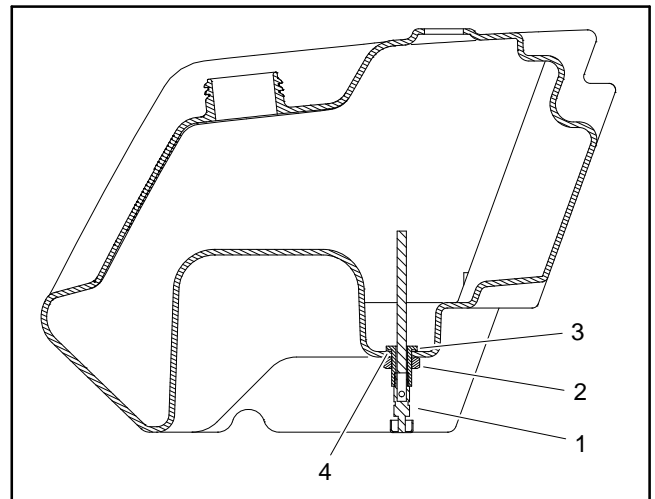

Figure 7
- B. Disconnect fuel supply hose (item 17) at the fuel filter and drain any fuel trapped in the fuel filter and fuel hose into a suitable container.
4. Remove vent hose (item 10) from fuel vent valve (item 6).
5. Remove four (4) cap screws (item 14), flat washers (item 13) and flange bushings (item 12) that secure the fuel tank to the tank mount plate (item 2).
6. Move fuel tank towards the rear of the machine to gain access to fuel return hose (item 15). Remove return hose from elbow fitting on front of tank.
9. If necessary, remove shut-off valve and fitting assembly from fuel tank (Fig. 7). The nut and fitting have left hand threads.
1. Install fitting assembly and shut-off valve into fuel tank if they were removed from tank (Fig. 7). The nut and fitting have left hand threads.
3. Move fuel tank towards the rear of the machine and install return hose (item 15) to elbow fitting on front of tank. Secure hose with hose clamp.
- A. Apply antiseize lubricant to the threads of the four (4) cap screws (item 14).
- B. Secure fuel tank to the tank mount plate with four (4) cap screws (item 14), flat washers (item 13) and flange bushings (item 12).
6. Connect fuel supply hose (item 17) to the fuel shut-off valve and fuel filter. Secure supply hose with hose clamps.
7. Connect vent hose (item 10) to fuel vent valve (item 6) and secure with hose clamp.